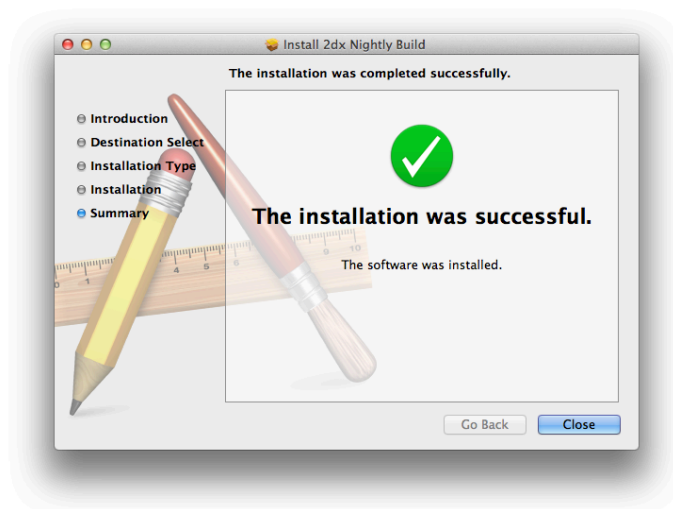

Figure 4: Successful installation on Mac
7. If everything worked well the installer tells you that the installation was successful (Figure 4). In the mean time the Application folder is opened and you should find a 2dx icon.